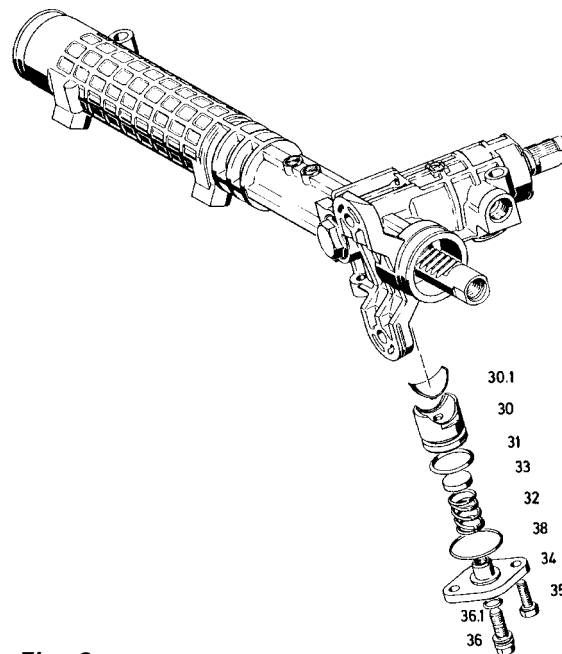

Fig. 3
3.1.1 For versions with additional adjusting screw (36):
Screw the adjusting screw (36) out and remove the O-ring (36.1) (*Fig. 3*).
3.1.2 Mark the position of the cover (34) relative to the housing (1).